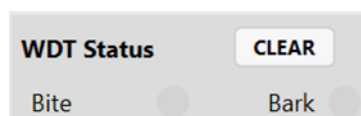

Figure 35: Watchdog Status Monitor
4. Monitor the watchdog status (see Figure 35).